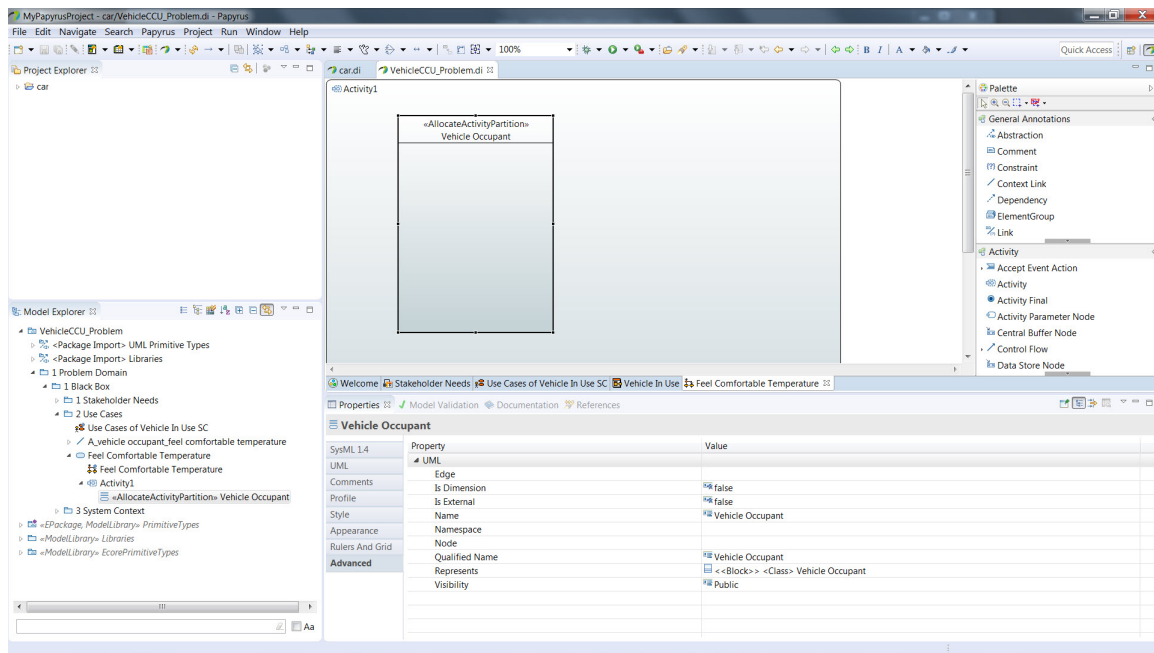

Figure 42: Vehicle Occupant Activity Partition in Activity Diagram
12. Now we need to add the activity partition to our activity diagram. In the *Model Explorer* window Click on the *Vehicle Occupant* activity partition that we created in the previous step and drag it to the activity diagram in the main window. You can adjust the size of the partition to make it larger (figure 42).